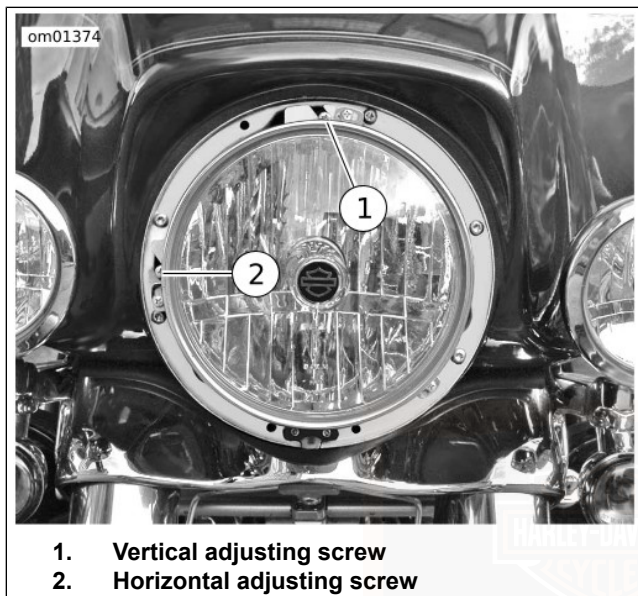

Figure 64. Adjust Headlamp Alignment: Tri Glide
2. See Figure 64. Adjust beam.
- a. Turn the vertical adjusting screw (1) to adjust headlamp vertically.
- b. Turn the horizontal adjusting screw (2) to adjust headlamp horizontally.